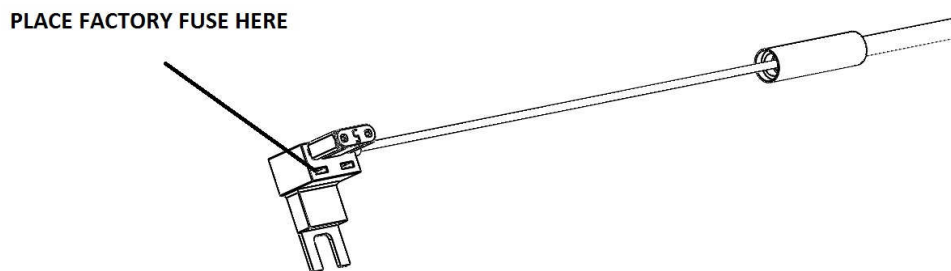

FIGURE 1-17
22. Locate the fuse box and remove the top cover to gain access to the fuses. Using a voltmeter or test light, find a fuse that is “hot” when the key is in the “on” position. Remove the selected fuse and replace it with the mini-fuse tap. Take the factory fuse you just removed and place it in the empty spot on the fuse tap. It may be necessary to trim the fuse box lid to clear the fuse tap and wire. **FIGURE 1-17**